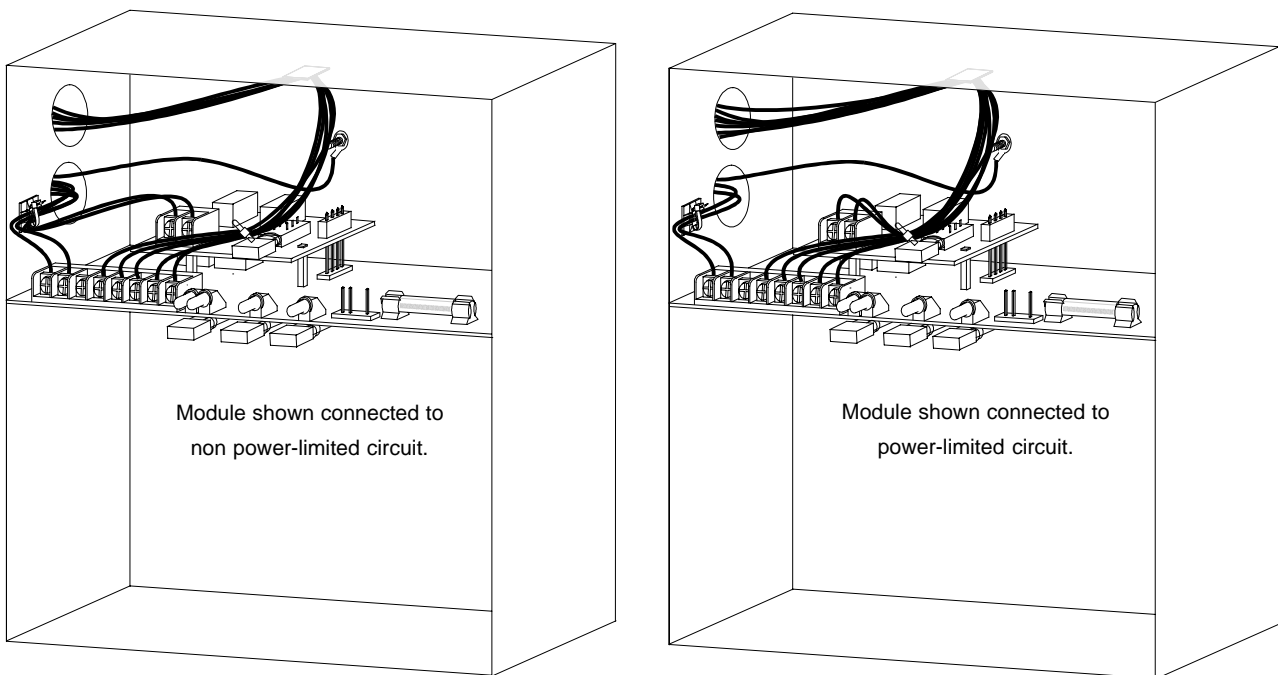

Figure 4.4: Typical wiring diagram for side knockouts
- For side knockouts, place the wire ties as shown in Figure 4.4.